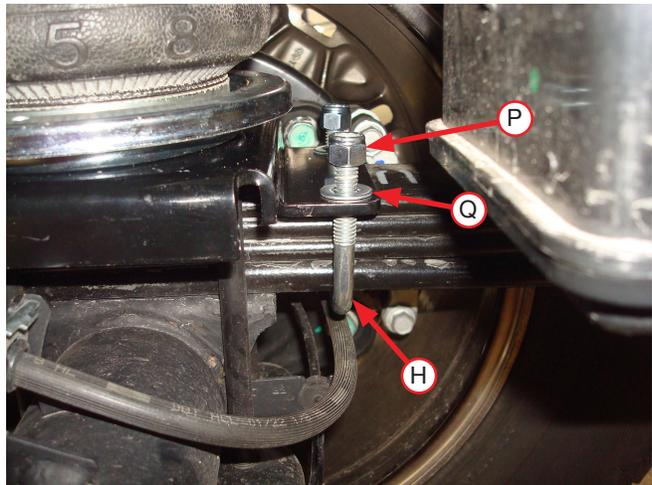

Fig. 17
4. With the axle lowered, set the left- and right-hand assemblies onto the leaf springs. Make sure that the fittings have been turned inboard to not pinch them when lifting the axle up (Fig. 17).